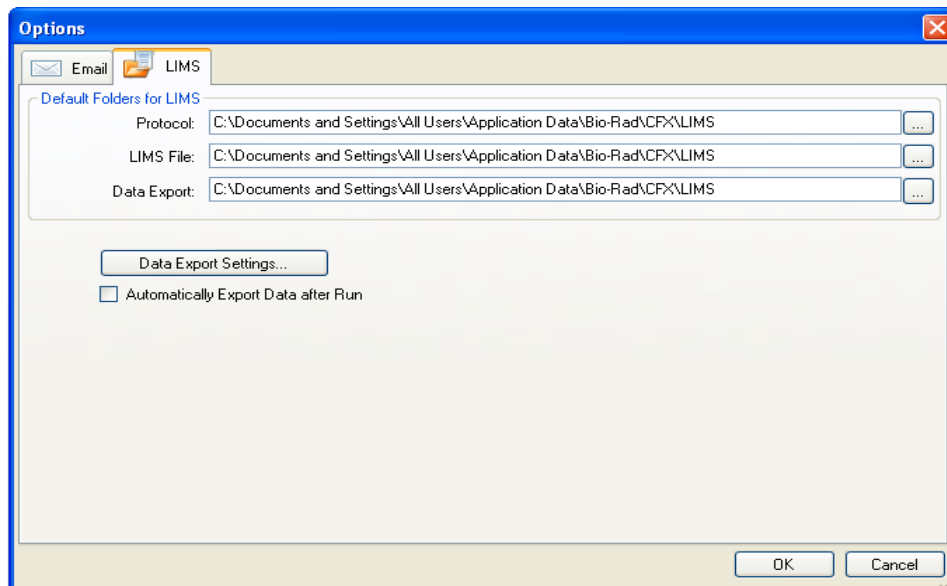

Figure 101. Options window displaying the LIMS settings tab.
1. Select **Tools > Options** from the main software menu bar then select the **LIMS** tab (Figure 101) to define the folder location that will contain the LIMS protocol (*.prcl), LIMS file (*.plrn), and exported data.
- At run completion, a LIMS data export file can be automatically generated in addition to the CFX Manager software *.pcrd data file. Check the **Automatically Export Data after Run** (Figure 101) box to have the data exported automatically once a run is completed.
Upon run completion, a CFX Manager software data (.pcrd) file is generated and saved to the defined data export folder location (Figure 101).